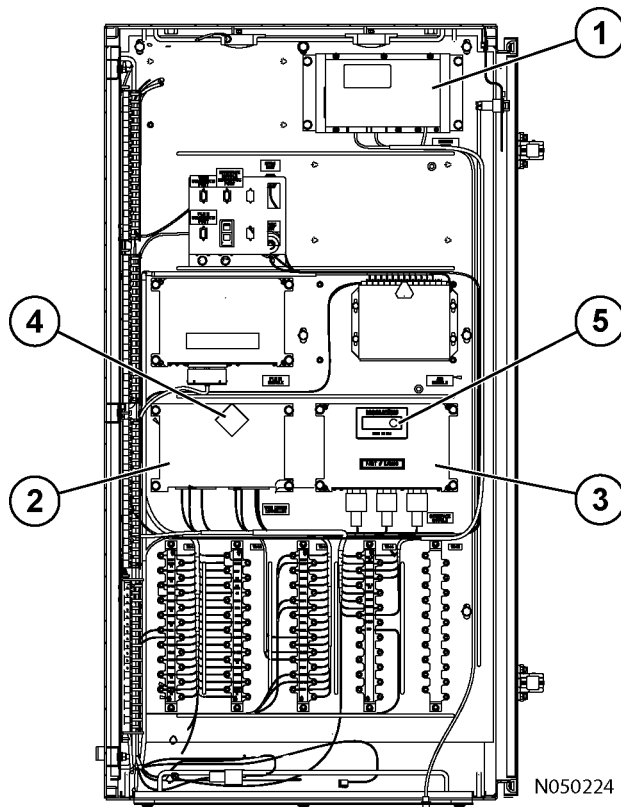
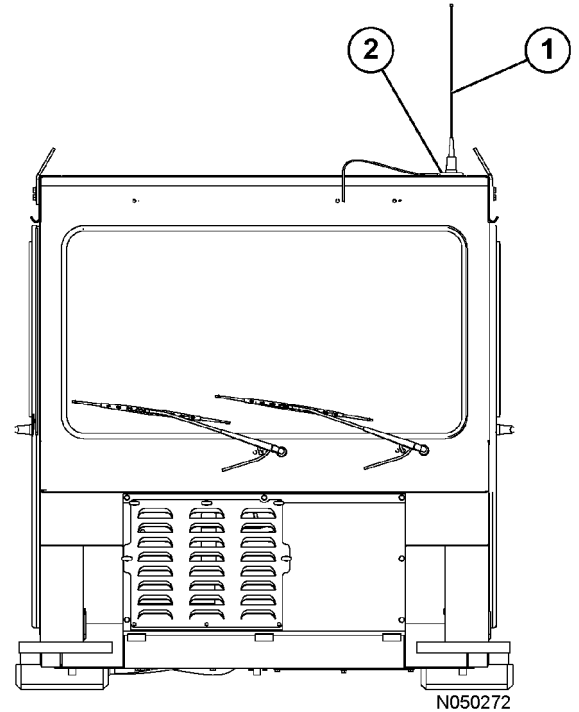

FIGURE 32-10. VHMS COMPONENT LOCATION
FIGURE 32-11. ORBCOMM
This system uses VHMS controller (2, Figure 32-10) to gather data about the operation of the truck from sensors and other controllers installed on the truck. The data stored in the VHMS controller is collected by a laptop personal computer (PC) or transmitted directly by communications satellite (utilizing the Orb-comm controller). This data is then compiled at the Komatsu computer server. Based on this information, the servicing Komatsu distributor will suggest improvements and provide information aimed at reducing machine repair costs and downtime.
The VHMS system is turned on by the truck key switch. Immediately after receiving 24V power from the key switch, the VHMS controller begins the power-up initialization sequence. This sequence takes about three seconds, during which time the red LED digits (4, Figure 32-10) display a circular sequence of flashing LED segments.
The Orbcmm controller (1, Figure 32-10) transmits data through antenna (1, Figure 32-11) mounted on top of the cab. The antenna coaxial cable is routed through the inside of the cab to protect it from damage. If the antenna or coaxial cable is damaged, replace the parts.
Interface module (3, Figure 32-10) receives data from the sensors installed on the truck and sends this information to the VHMS controller. There is a small green LED light on the face of the controller. With the key switch ON, the light must be blinking. If the light is continuously illuminated, there is a problem in the controller.